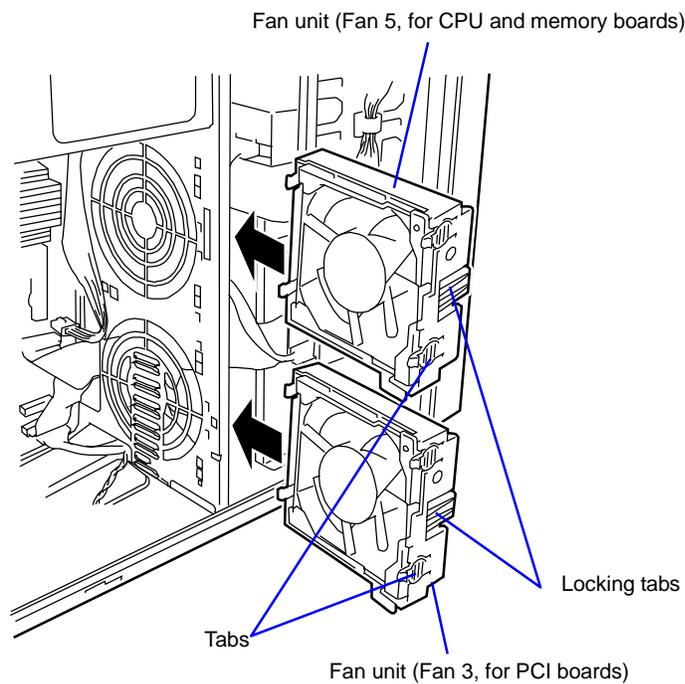

Figure 4-34. Installing a Fan Unit
3. Hold the fan unit with its locking tab facing the front of the server and with the hook facing the rear of the server. Insert the fan unit into the server. See Figure 4-34.